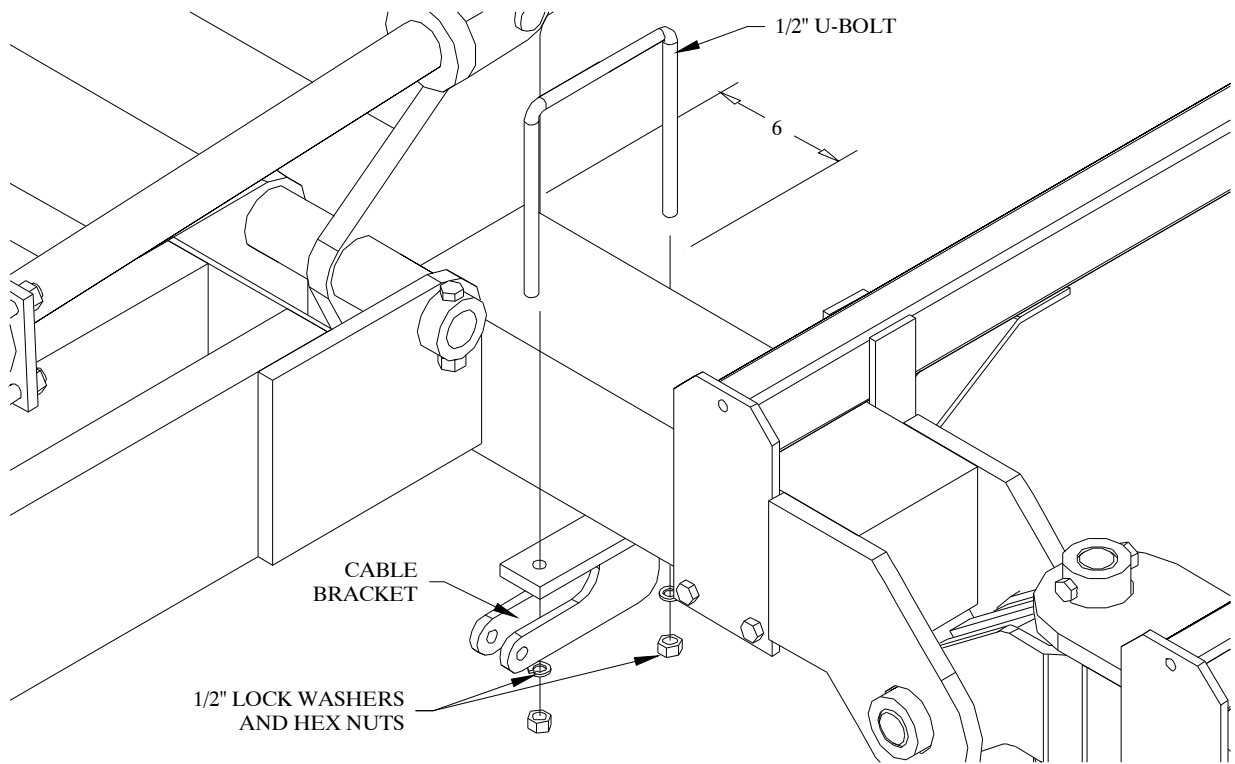

Figure 29
1. Attach the cable bracket to the center bar 6" from the cylinder hinge plate. Refer to Figure 29. Use two $\frac{1}{2}$ " x 6" x 7 $\frac{3}{4}$ " u-bolts, lock washers and hex nuts.